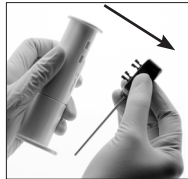

Figure 4
- a. The Zephyr EBV is packaged inside the Endobronchial Loader System or ELS (Figure 3). To load the Zephyr EBV remove the pusher from the side of the ELS (see Figure 4).